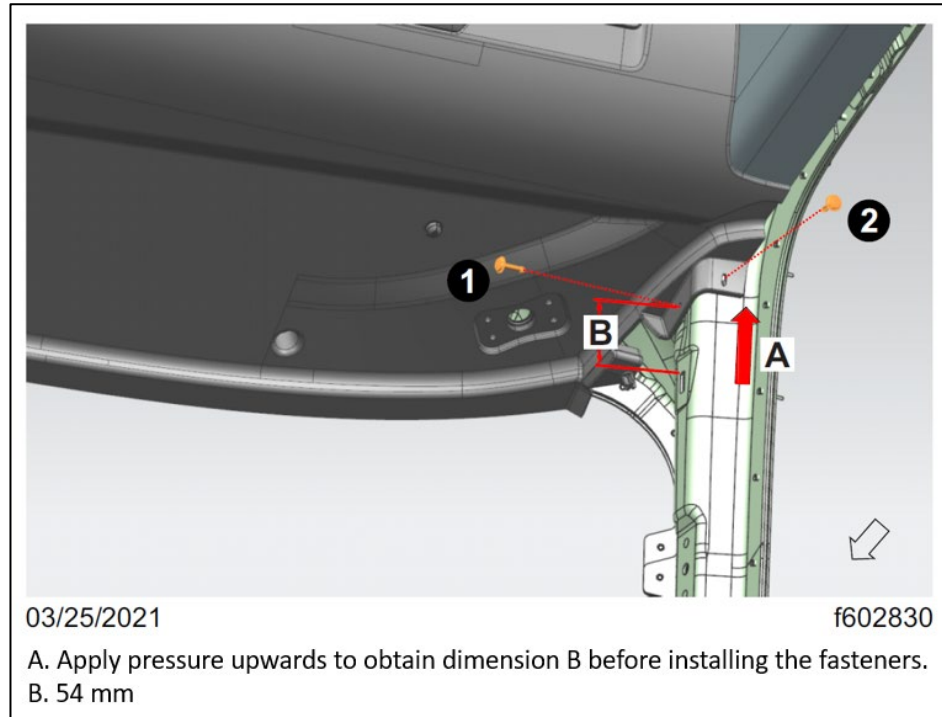

Fig. 60, Installing the Fasteners That Attach the RH Side Overhead Storage Cabinet to the A-Pillar
- 12.6. See Fig. 60. Applying pressure upwards on the RH side overhead storage cabinet, install the two fasteners that attach the RH side overhead storage cabinet to the A-pillar. Tighten the fasteners 11 to 13 lbf.ft (14 to 18 N.m) as per the sequence shown in Fig. 60.